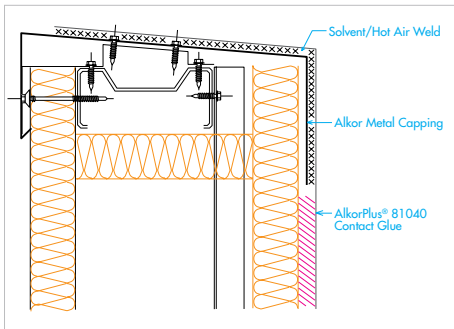

Fig. 5: Double-sided gluing of parapets
- Parapets can also be adhered to achieve a wind-tight detail. (See Fig. 5) Here, the AlkorPlus® 81040 contact glue is applied to the entire surface of both membrane and upstand with a minimum consumption of 2 x 150 g/m2. The parapet will have an AlkorPlan® metal trim, but compressive foam and intermediate fastening can be omitted.